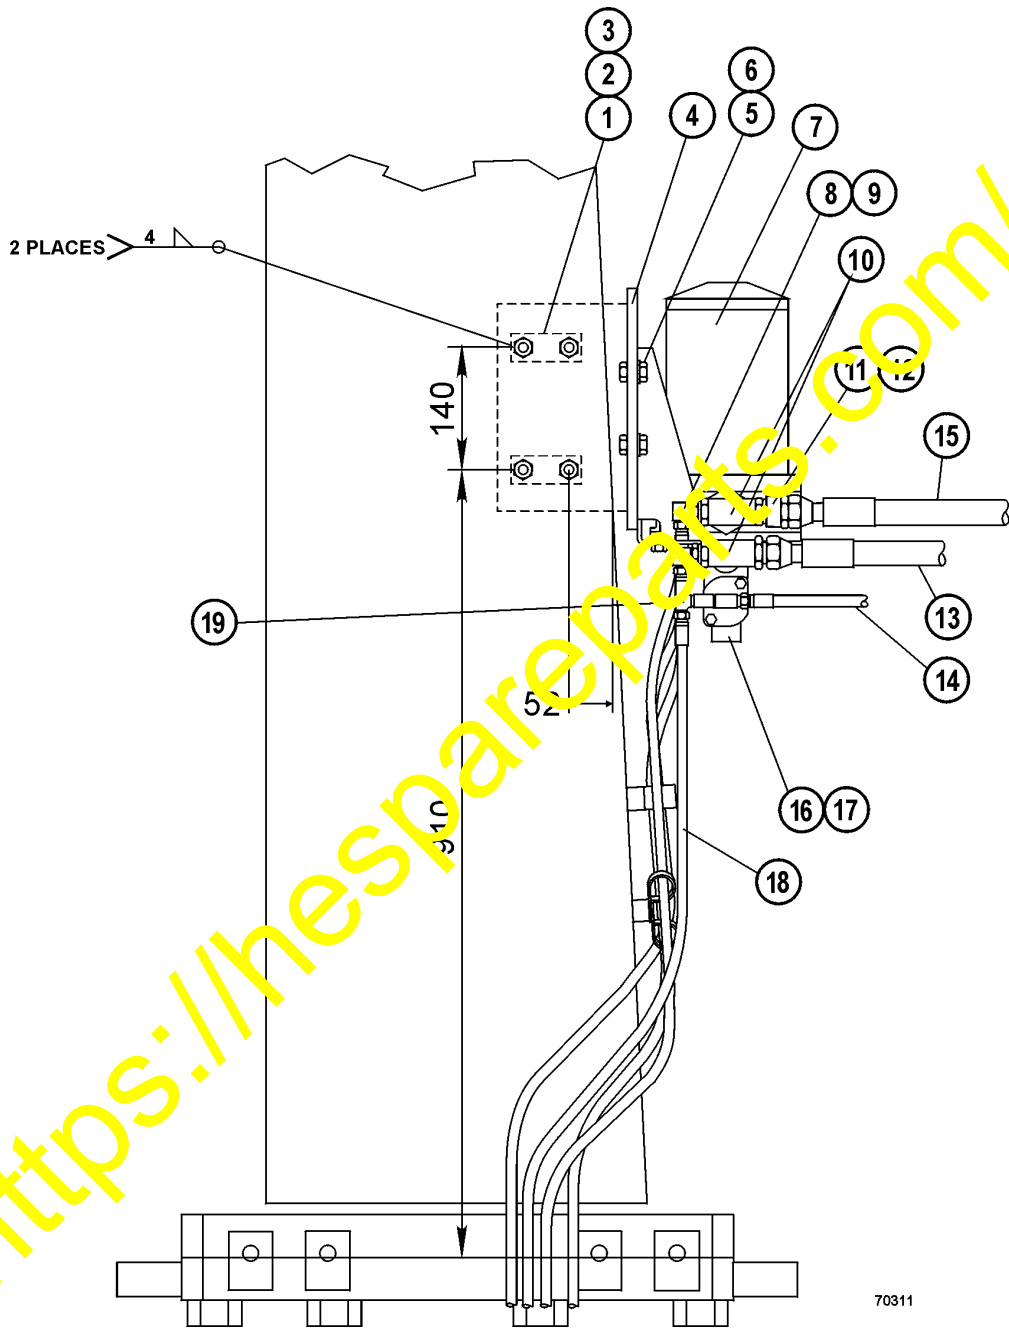

Figure 4. Air Piping - Upper L.H. ROPS
1. Weld mounting seats (3, Figure 4).
2. Cut out 70 x 140mm notch in L.H. Deck plate (Figure 4) to allow piping installation.
3. Remove the existing Air Dryer from the current location and discard. Mount new Air Dryer to the L.H. ROPS post (Figure 4).
4. Mount new bracket (4, Figure 4) to ROPS post using capscrews and washers.
5. Install Air Dryer (7, Figure 4) to bracket using capscrews, washers, and nuts.